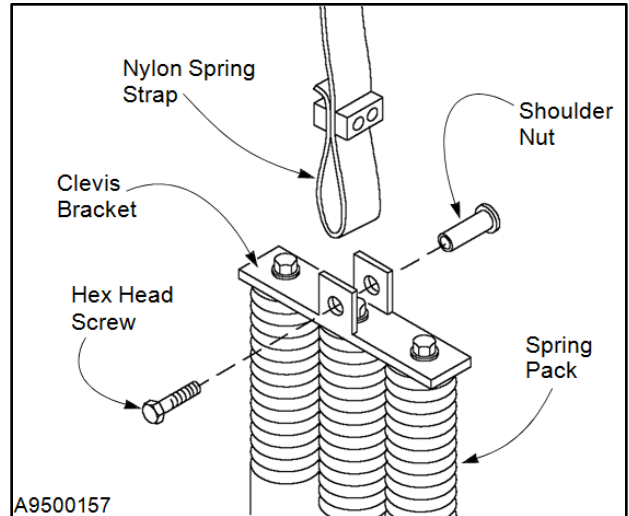

Figure 69
11. Attach the loop end of the new spring strap to the spring pack using the saved hardware. Make sure the strap is hanging straight and not twisted. (See Figure 69.)